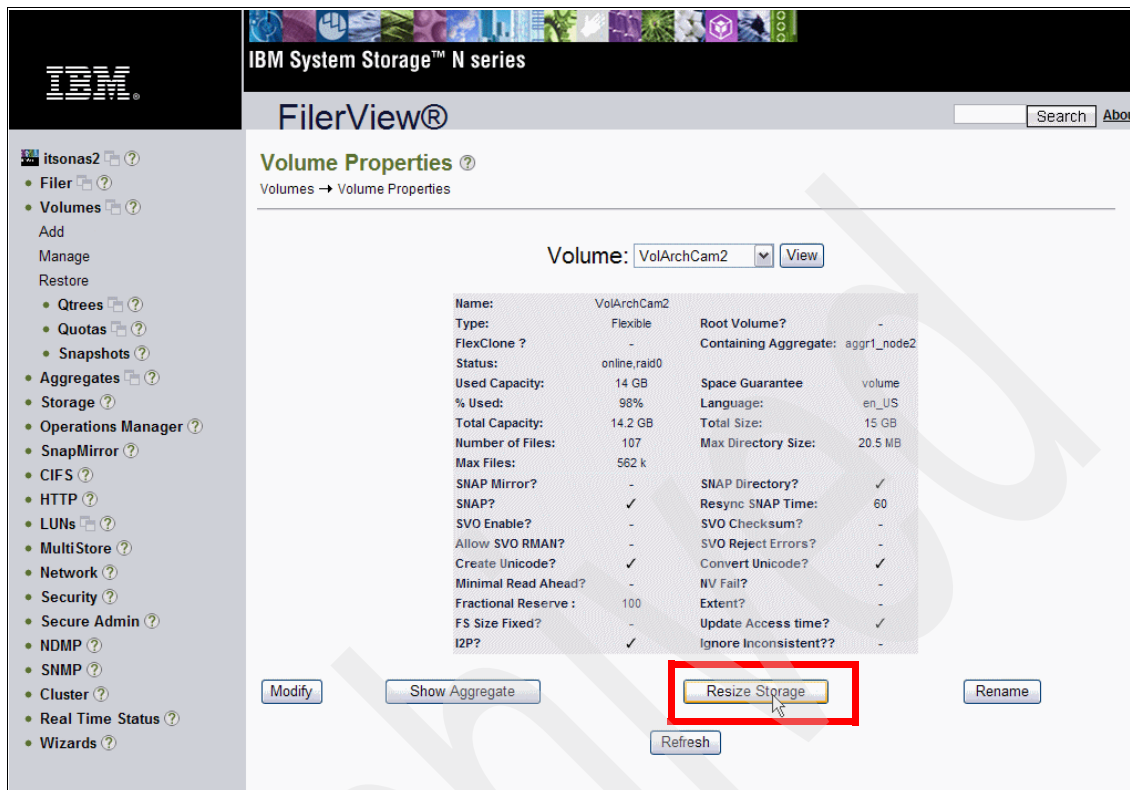

Figure 9-10 Volume Properties
2. A window with information about the volume is displayed. Click **Resize Storage**, as shown in Figure 9-10 on page 300.